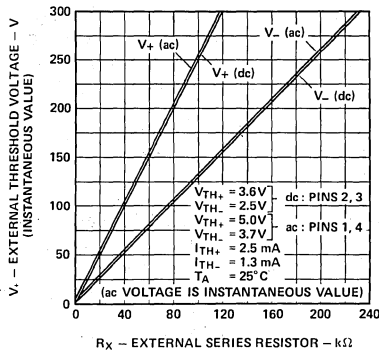
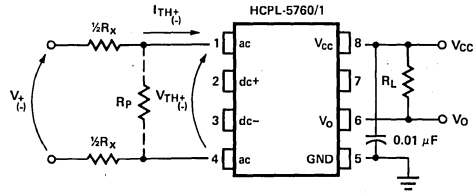

Figure 10. Typical External Threshold Characteristics, V_{\pm} vs. R_X .
Figure 11. External Threshold Voltage Level Selection.
The HCPL-5760/1 optocoupler has internal temperature compensated, predictable voltage and current threshold points which allow selection of an external resistor, R_X , to determine larger external threshold voltage levels. For a desired external threshold voltage, V_{\pm} , a corresponding typical value of R_X can be obtained from Figure 10. Specific calculation of R_X can be obtained from Equation (1) of Figure 11. Specification of both V_- and V_+ voltage threshold levels simultaneously can be obtained by the use of R_X and R_P as shown in Figure 11 and determined by Equations (2) and (3).